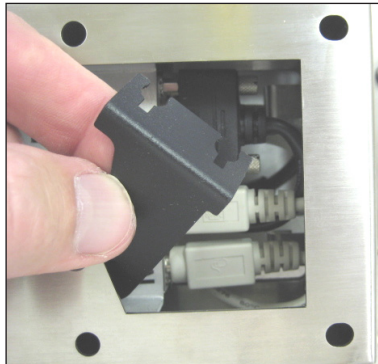

FIGURE 6
- Rotate retention bracket as shown in Figure 6.